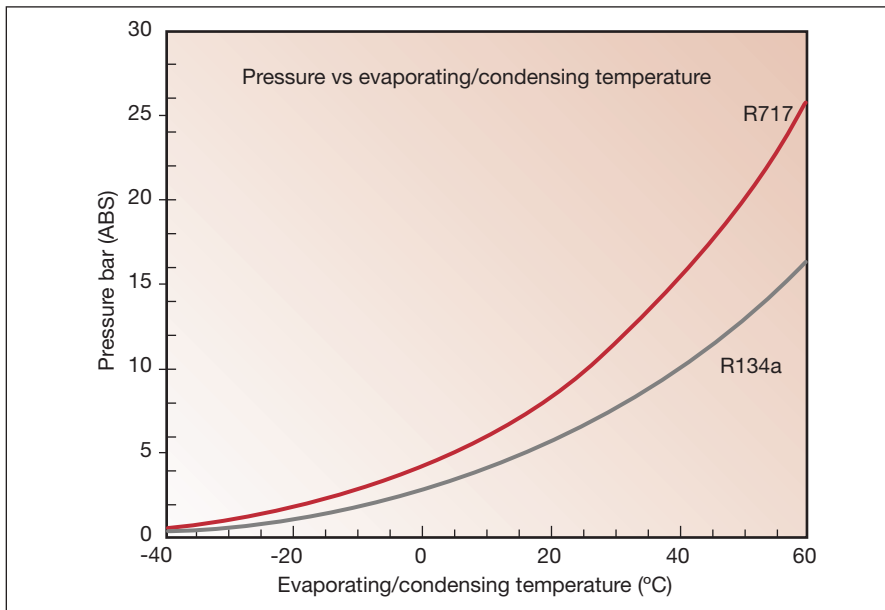

Figure 1 Pressure-temperature relationship for ammonia (R717) and R134a
**Rule 4.** The boiling temperature and the condensing temperature change if the pressure changes – Figure 1 shows this relationship for ammonia and R134a. This principle explains why you can't make good tea up a high mountain – the water boils at only about 90°C because of the lower pressure.
The refrigeration system uses a fluid – the refrigerant – which boils at a low temperature (usually between -10°C and -45°C) when it is at a low pressure (the saturation pressure, usually between 1 and 5 bar as shown in Figure 1). Its boiling or evaporating pressure can be controlled so that it boils at a temperature lower than that of the product to be cooled (e.g. ice cream) – Rules 4 and 1.